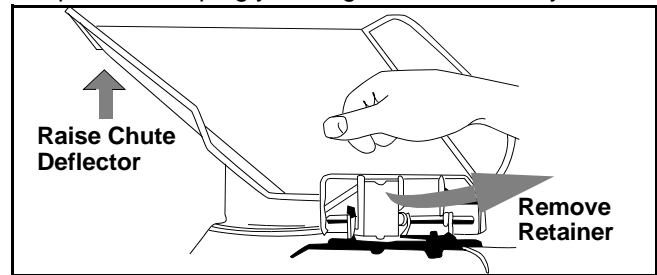

Figure 8
- Push the chute deflector up and towards the engine. Holding the deflector in this position, remove the retainer. See Figure 8.